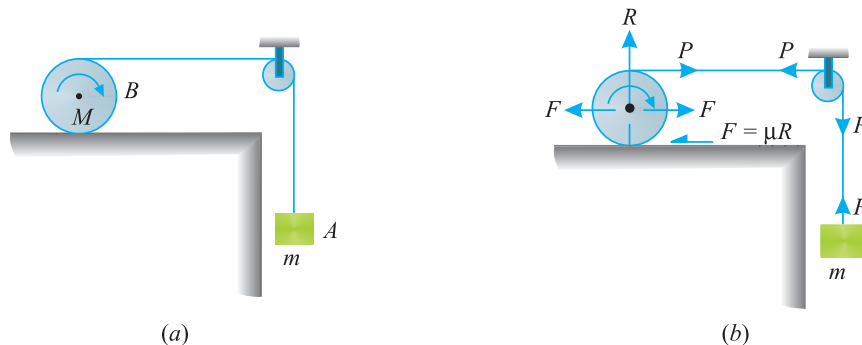

Fig. 31.15. Body rolling on a rough horizontal plane without slipping.
**Example 31.15.** Find the acceleration ( $a$ ) on a solid right circular roller  $A$  of mass 20 kg when it is being pulled by another body  $B$  of mass 10 kg along a horizontal plane as shown in Fig. 31.15.